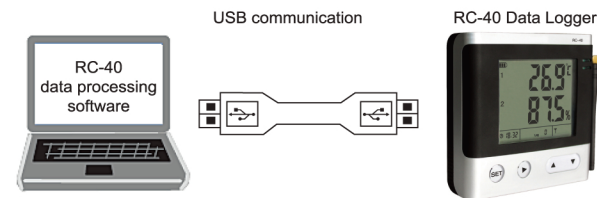

Figure 9.1 Scheme of data transmission by USB
2.4.1. For single RC-40, its data could be transmitted to PC by U disk or by USB interface, and then connect U disk to the computer for data analysis. Please see Figure 9.1 and 9.2.